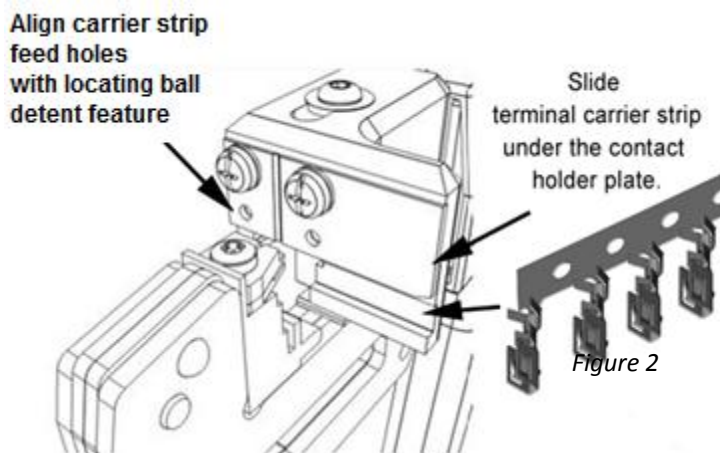

Figure 2
3. Slide the terminal carrier strip under the contact holder plate and align the carrier strip feed holes with the locating ball detent features. The terminal should now be properly positioned and ready to crimp (Figure 2).